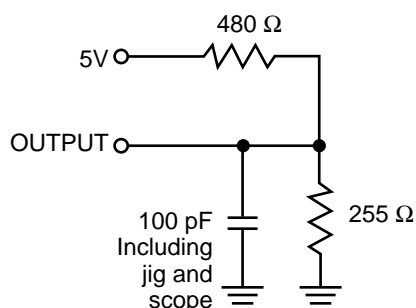

Figure 1a.
- Test conditions assume signal transition times of 5 ns or less, timing reference levels of 1.5V, input pulse levels of 0 to 3.0V and output loading specified in Figure 1a.
Output Load	See Figures 1a and 1b
1. Test conditions assume signal transition times of 5 ns or less, timing reference levels of 1.5V, input pulse levels of 0 to 3.0V and output loading specified in Figure 1a.